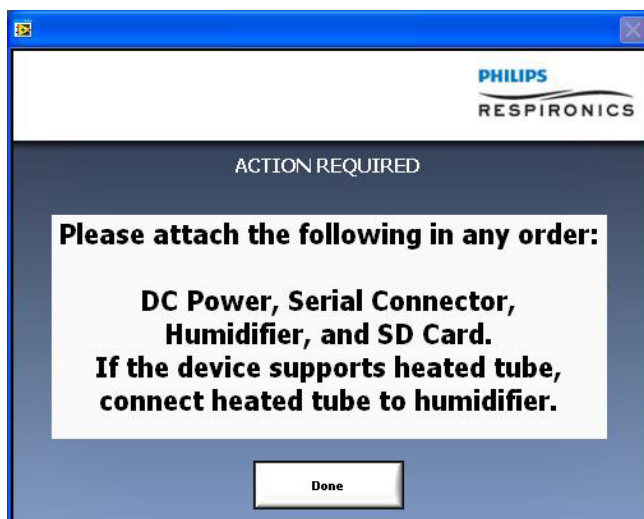

FIGURE 8-8: ACTION REQUIRED WINDOW
5. When setting up the Device as per the *Action Required* prompt shown in Figure 8-8, be sure to: